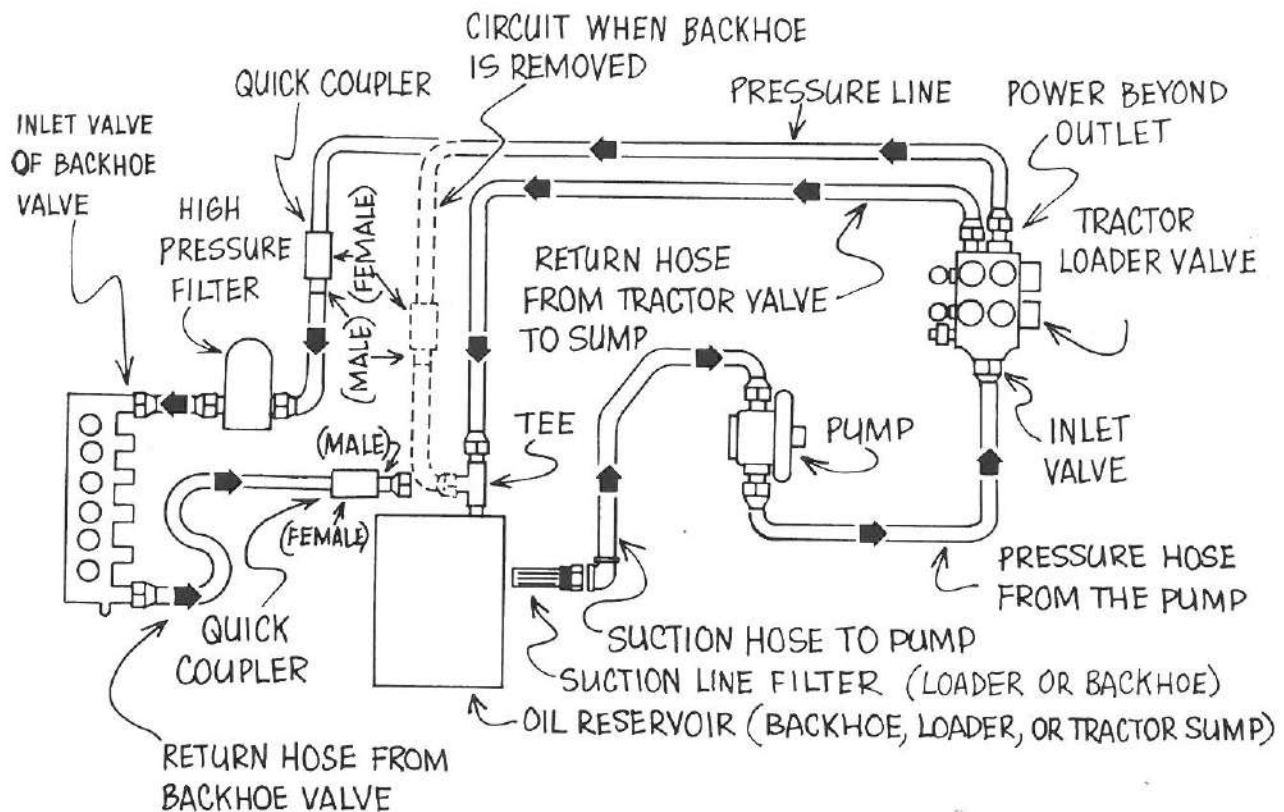
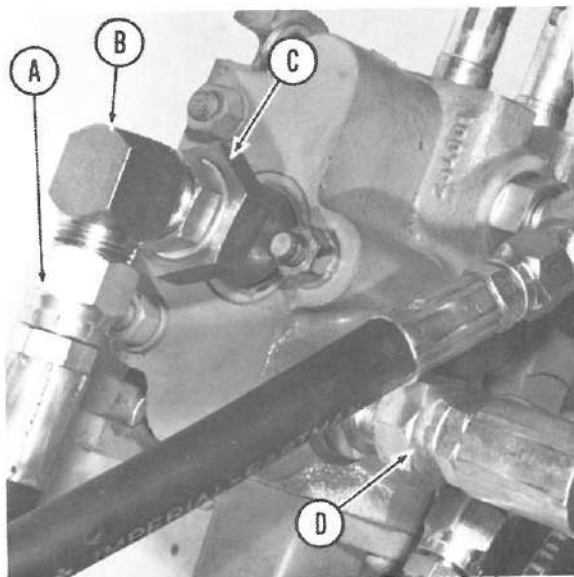

Figure 2 — Power Beyond Hosing
Figure 10
- D. If you wish to run both a loader and a backhoe off of the same hydraulic system, make your connection as illustrated in Figure 2 — Power Beyond Hosing. Also, refer to the section of this manual entitled **Power Beyond Hydraulic Systems** Figure 10. Since there are so many variations for this type of setup, we are showing only a generalized hosing scheme. If you have any questions concerning the specifics for your situation, please contact the factory before attempting operation.
- D. If you wish to run both a loader and a backhoe off the same hydraulic system, make your connection as illustrated in Figure 2 — Power Beyond Hosing.
- A. Remove return hose and elbow, Points A and B in Figure 10, from valve.
- B. Install closed center sleeve in Figure 12 as seen at Point C — Figure 10. Remove O-ring plug from sleeve.
- D. Install a high pressure hose going to the inlet of another valve. This hose is not furnished (Point A — Figure 10).
- E. Remove O-ring plug from front of the outlet section of valve (Point D — Figure 10) and replace with 850B-8X10 adapter (Part #SFT10079). Connect return line that was removed from Point A to this adapter. Connect the other end of the return hose to the tractor oil sump.
- F. Refer to Figure 2 for hosing.